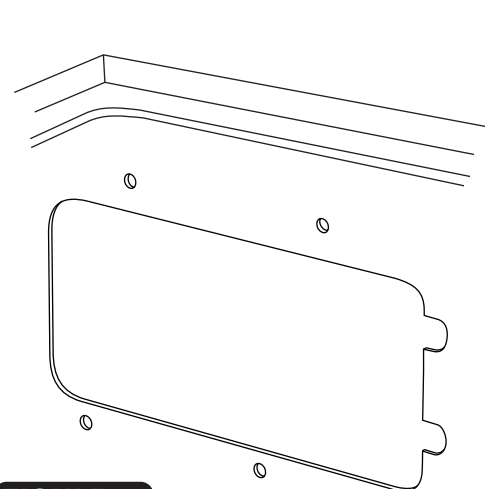

FIGURE 11
- ☐ ATTACH FIREWALL BLOWER COVER TO FIREWALL USING (3) 1/4" NUT w/ STAR WASHERS AND (3) FLAT WASHERS. SEE FIGURE 11 BELOW.